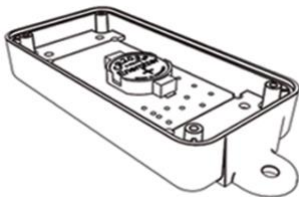

Figure 1
- 4) Remove the battery from the packaging and install it with the plus (+) sign up as in figure 1. **The LevelMatePRO+ uses a CR2450 battery.** You may also choose to externally power the unit using the micro-USB connector. The external power connection can be made using a standard USB port or 12 VDC.